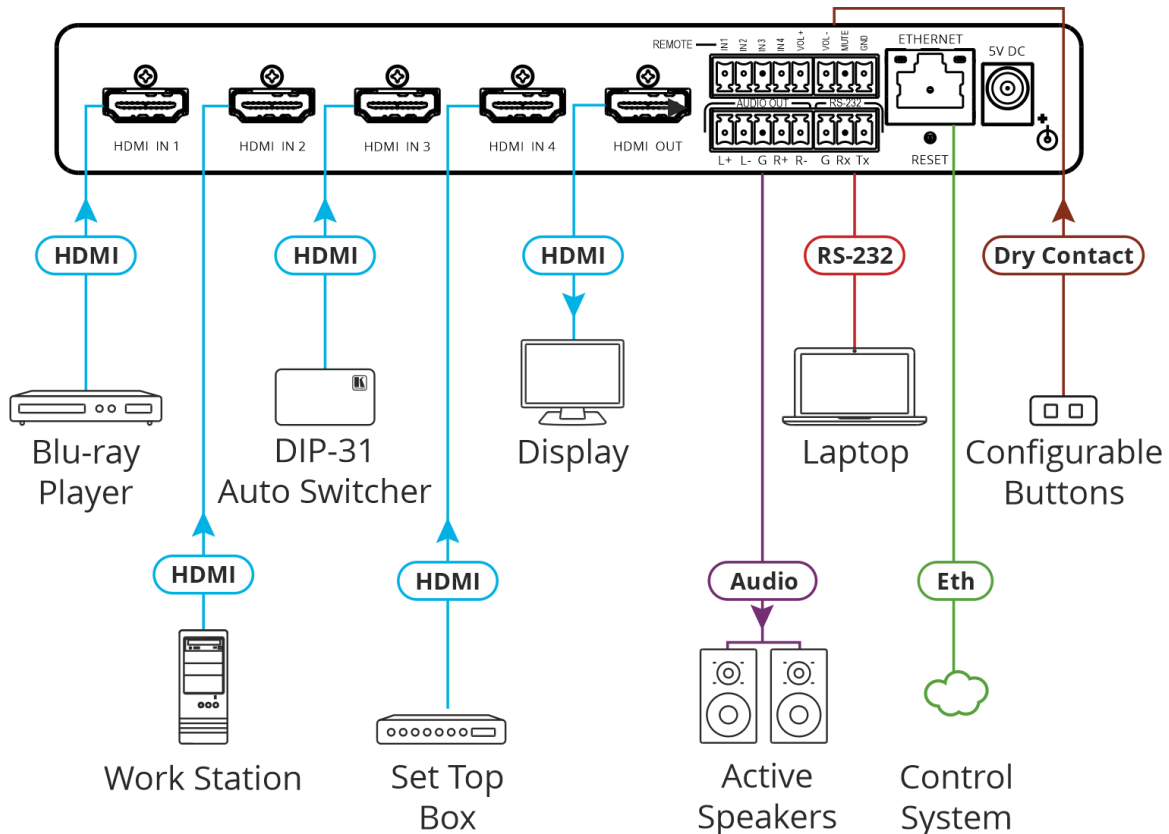

Figure 5: Connecting to the VS-411XS Rear Panel
To connect VS-411XS as illustrated in the example in Figure 5:
- Connect an HDMI source to the HDMI IN connectors (7), for example, Connect:
- Connect HDMI OUT (8) to an HDMI acceptor (for example, a display).
- Connect REMOTE dry-contact terminal block connectors (10) to configurable buttons to select an input (see Using Contact Closure Remote Control Pins on page 16) or activate a custom Maestro trigger (see Configuring Device Control and Automation on page 41).
5. Connect the RS-232 3-pin terminal block connector (14) to the RS-232 port on a controller (for example, a laptop) to control the **VS-411XS**.
6. Connect the ETHERNET RJ-45 port (11) to the LAN.
7. Connect the 5V power adapter to **VS-411XS** and to the mains electricity (not shown in Figure 5).